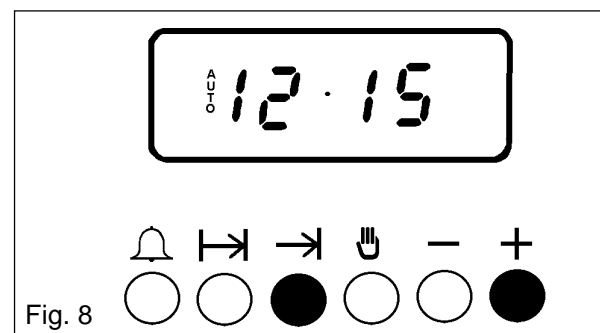

Fig. 8
- Set the STOP time. Press the stop time button (⏹), while holding it down, press the increase control (+) until the required stop time is displayed, e.g. 12.15p.m. as Fig. 8. If necessary depress the decrease control (-) until the correct time interval is achieved.